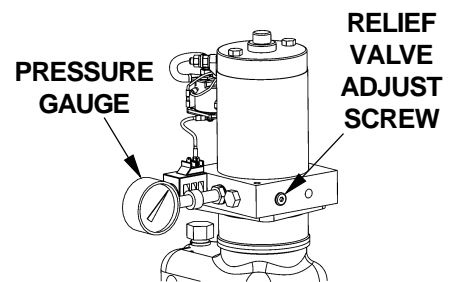

FIG. 7
9. With Platform on the ground, remove the pressure hose and fitting from the Pump and replace it with a 0-3000 PSI Pressure Gauge. Hold the Control switch in the "RAISE" position. Adjust the Relief Valve on the side of the Pump until the gauge shows 2800 to 3000 PSI (**FIG. 7**). Remove gauge and re-install pressure hose.